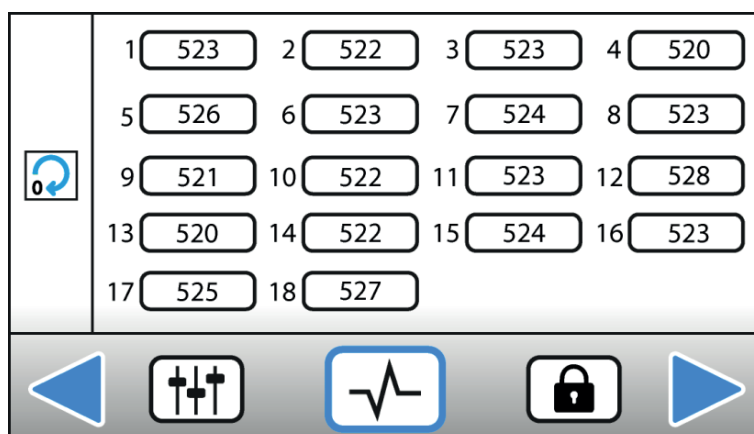

Fig.3
3.7 - TROUBLESHOOTING (Fig. 3)